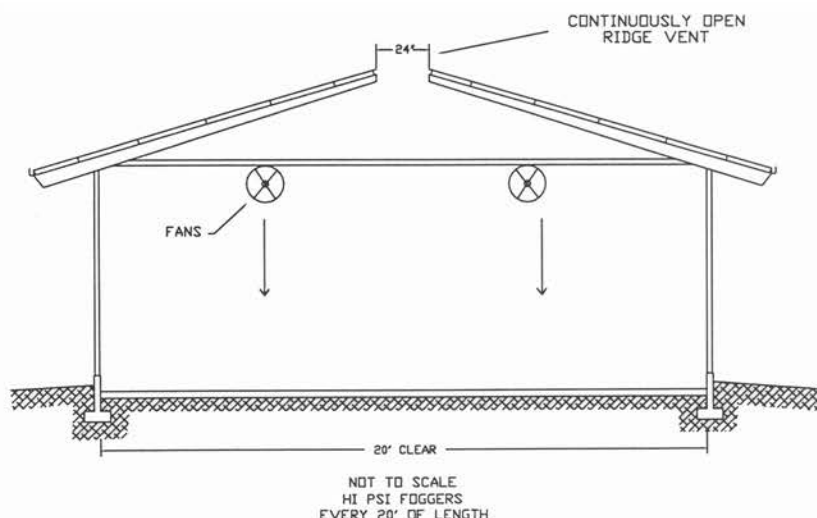

Figure 4. Typical Holding Area
- Many holding areas (Figure 4) have high enclosed sides. These should be removed to provide ventilation during the warm weather and curtains used in cold weather. The ridge vent in the holding area should be large, (24" opening) to exhaust heat and moisture, especially when a cow wash system is used. The holding area often is where the cows experience the highest heat stress during the day, so it is important to provide good design here.